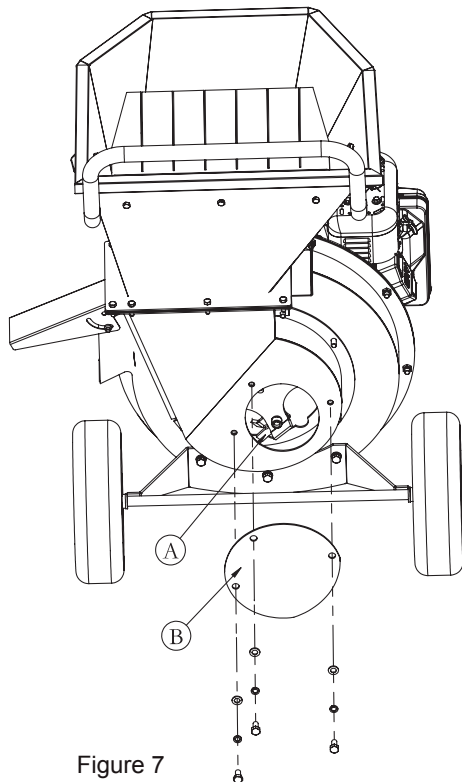

Figure 7
## Inspect / Rotate Shredding Hammers (See Figure 7)
2. Remove the small circular access panel (B) from the back of the shredder housing. SEE FIGURE 7
3. Inspect the cutting edges of the Y-hammers (A).